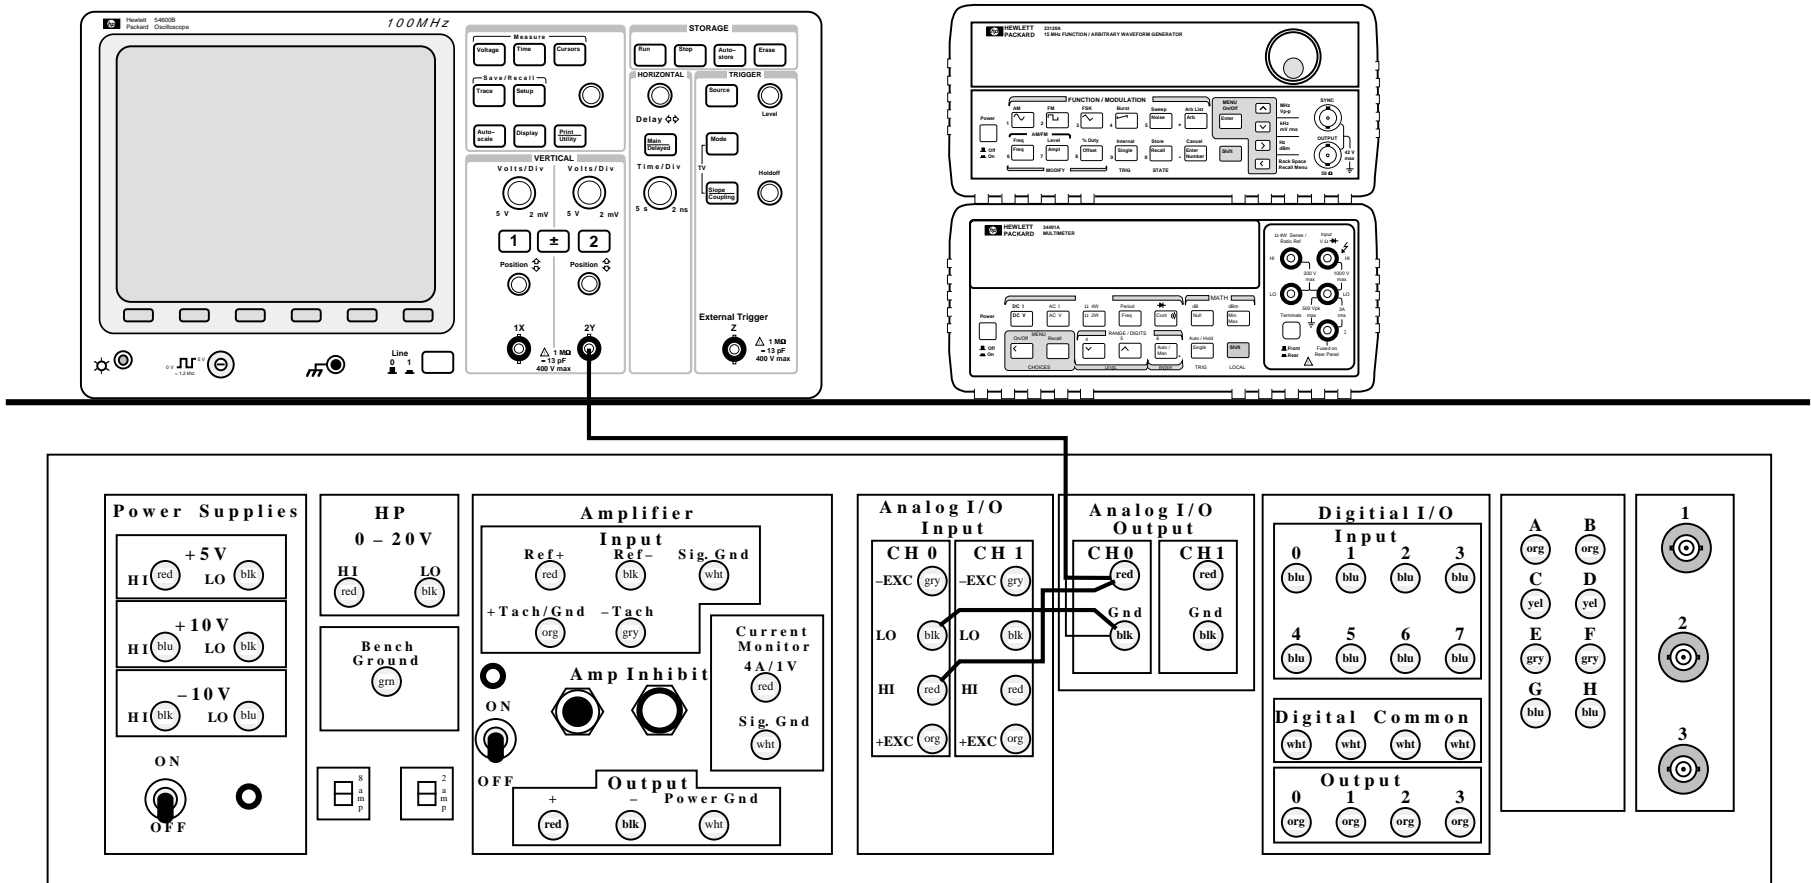

Figure 2. Equipment layout and connections for quantification error experiment.
- (g) Wire the system as shown in Fig. 2. Connect Analog Output Channel 0 to both Analog *Input* Channel 0 and Oscilloscope Channel 2.